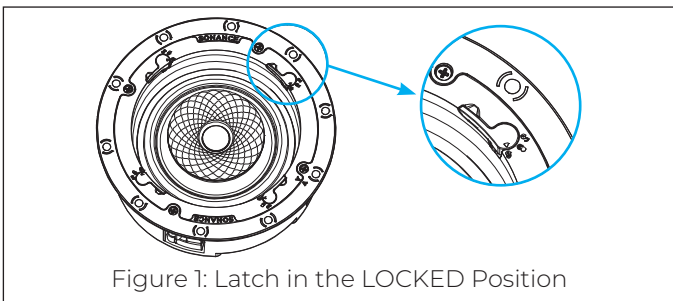

Figure 1: Latch in the LOCKED Position
1. Leave the Sonance VX SST speaker module Flex Frame latches in the LOCKED position as supplied out of the box. This will ensure that your VX speaker remains a single piece for the one-stage installation process (see Figure 1).